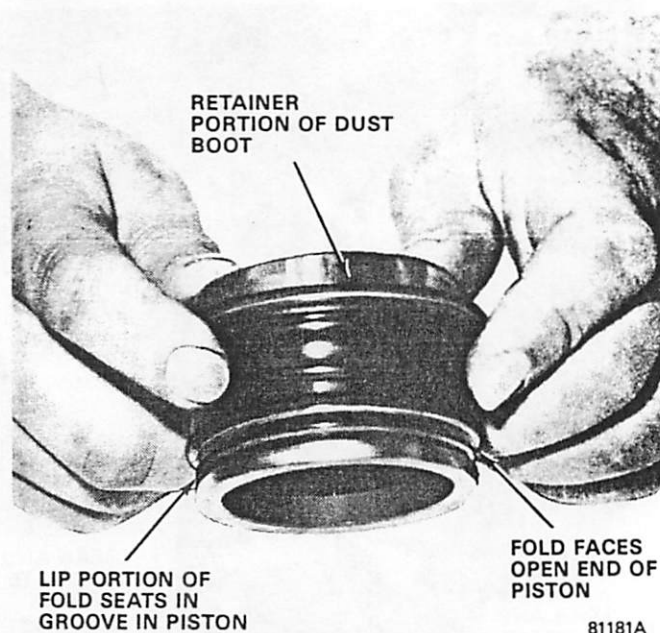

Fig. 2G-53 Installing Dust Boot on Piston
(1) Lubricate piston bore and replacement seal with brake fluid.
(2) Install piston seal in bore groove. Work seal into groove using fingers only.
(3) Lubricate piston with brake fluid.
(4) Install replacement dust boot on piston. Slide metal retainer portion of boot over open end of piston and pull boot rearward until rubber boot lip seats in piston groove (fig. 2G-53).
(5) Push metal retainer portion of boot forward until retainer is flush with rim at open end of piston and boot fold snaps into place (fig. 2G-54).